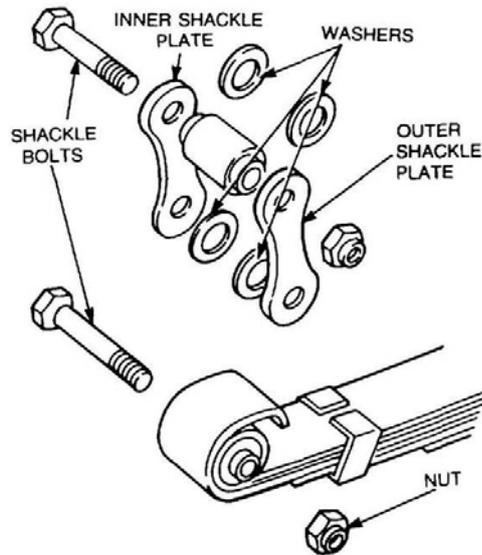

Figure 122 Removal of the Shackle Bolts (Rocker Beam End)
- c. Remove the outer shackle plate and the two flat washers. Using a suitable drift, drive the shackle bolts from the spring eye and the rocker beam. Remove the shackle bolts, the two flat washers and the inner shackle plate (Figure 122).